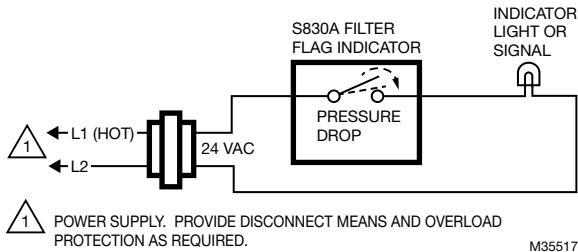

Fig. 3. Typical hookup for S830A. Circuit is activated when S380A flag drops.
2. If the electrical switch is to be used, connect wires to the terminals on the back of the case (Fig. 3).
When the furnace air filter (disposable, washable, or electronic) becomes clogged, the suction increases on the downstream side of the filter, causing air to be drawn through a port on the back of the S830. When suction becomes greater than the set point of the S830, it releases the red flag marked CHANGE FILTER. The flag shows in the clear plastic window on the front of the case. The S830A may be wired to a remote filter light on a thermostat subbase (Fig. 3). The contacts make to actuate the light when the air filter needs cleaning or changing. See wiring instructions furnished with subbase.